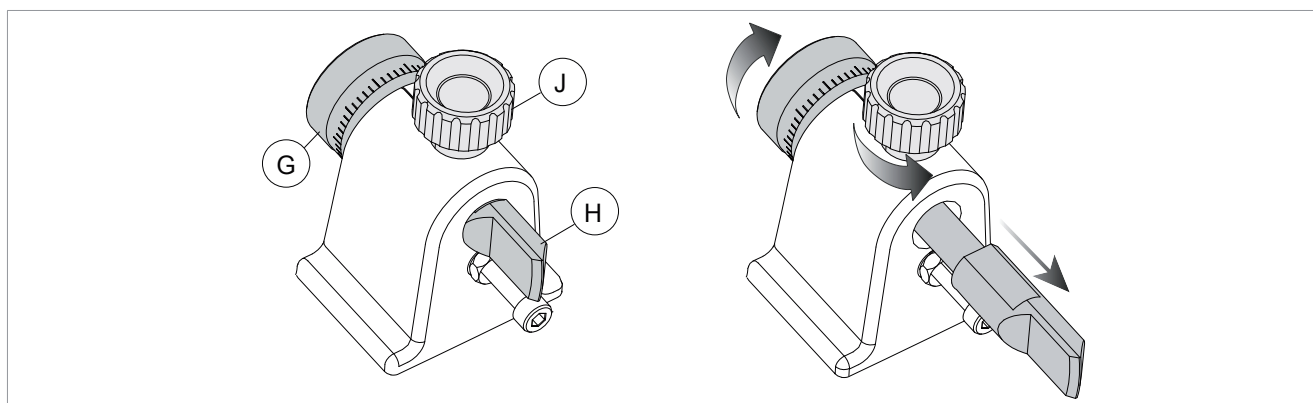

Fig. 36
- 1) Loosen the knob (J) (Fig. 36).
- 2) Loosen the ring nut (G) completely and remove the tracer. Attention: the spring may stay in place.
- 3) Fit a new tracer and tighten the ring nut (G).